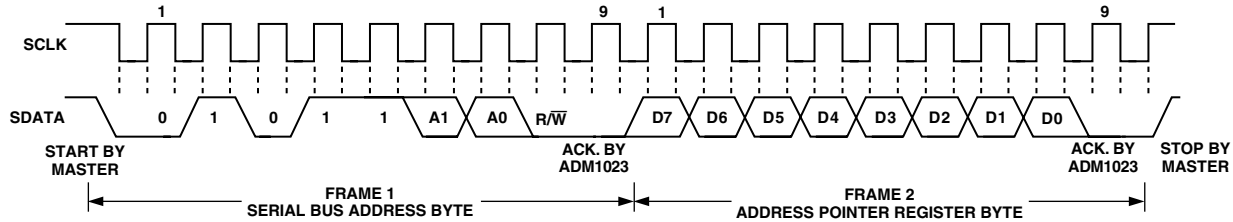

Figure 15. Writing to the Address Pointer Register Only
as before, but only the data byte containing the register read address is sent, as data is not to be written to the register. This is shown in Figure 15.
A read operation is then performed consisting of the serial bus address, $R/\overline{W}$ bit set to 1, followed by the data byte read from the data register. This is shown in Figure 15.
2. If the Address Pointer Register is known to be already at the desired address, data can be read from the corresponding data register without first writing to the Address Pointer Register, so Figure 15 can be omitted.